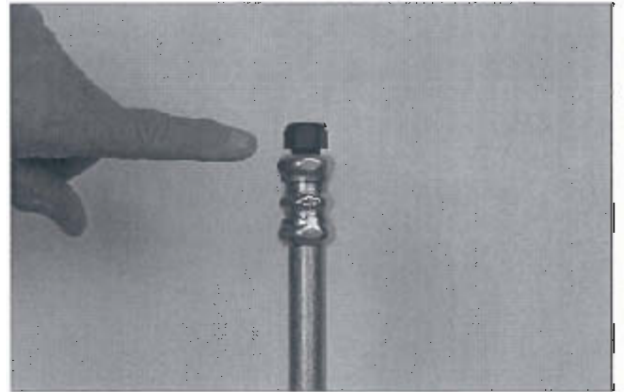

FIGURE 88
9. Install strain relief nut onto strain relief body. Do not tighten nut at this time. See Figure 88.